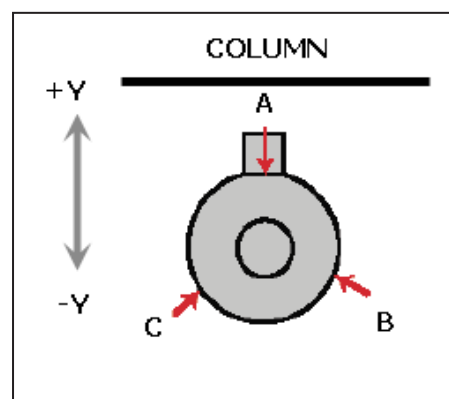

Figure 8.24
- Orient the probe in the spindle so one of three adjustment screws is opposite the machine column (see Figure 8.24). Label this Screw A.